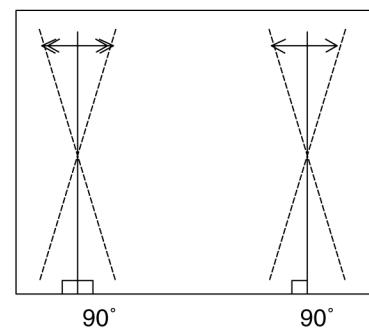

Fig 26
3. Adjust the vertical line to straight line of bothside vertical line in Fig. 26 by Trapezoid(1125i\_50)